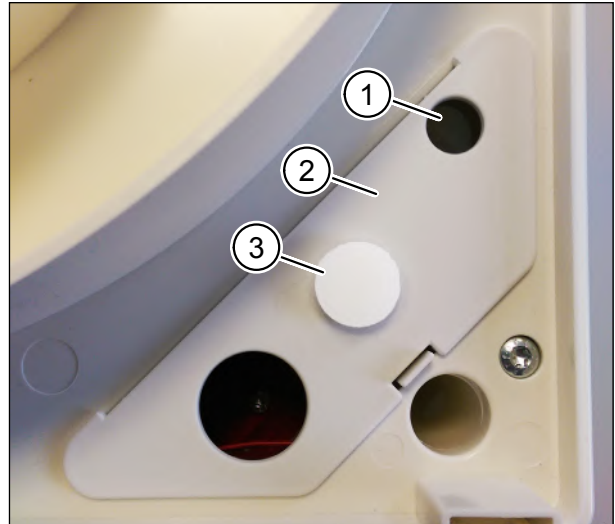

Fig. 12: Fixing the EIB universal interface 6119/40 to the Velcro dot
- ▶ Thread the EIB bus cable through the opening (item 1 in Fig. 12) in the network connection cover.
- ▶ Re-insert the network connection cover (item 2 in Fig. 12).
- ▶ Pull the glue dot off the Velcro dot (item 3 in Fig. 12).